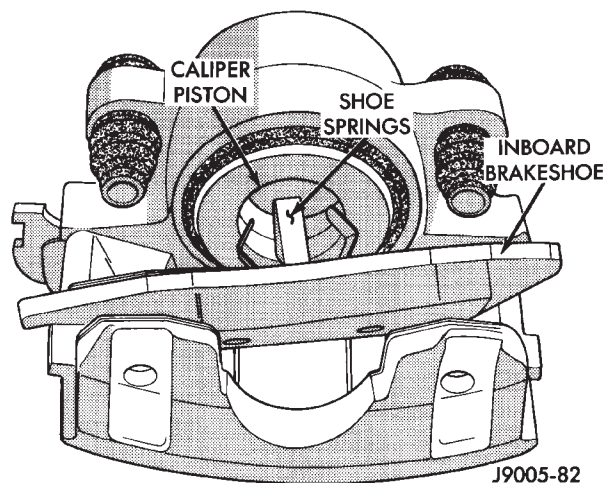

Fig. 8 Installing Inboard Brakeshoe
(3) Install inboard shoe in caliper (Fig. 8). Be sure shoe retaining springs are fully seated in caliper piston.